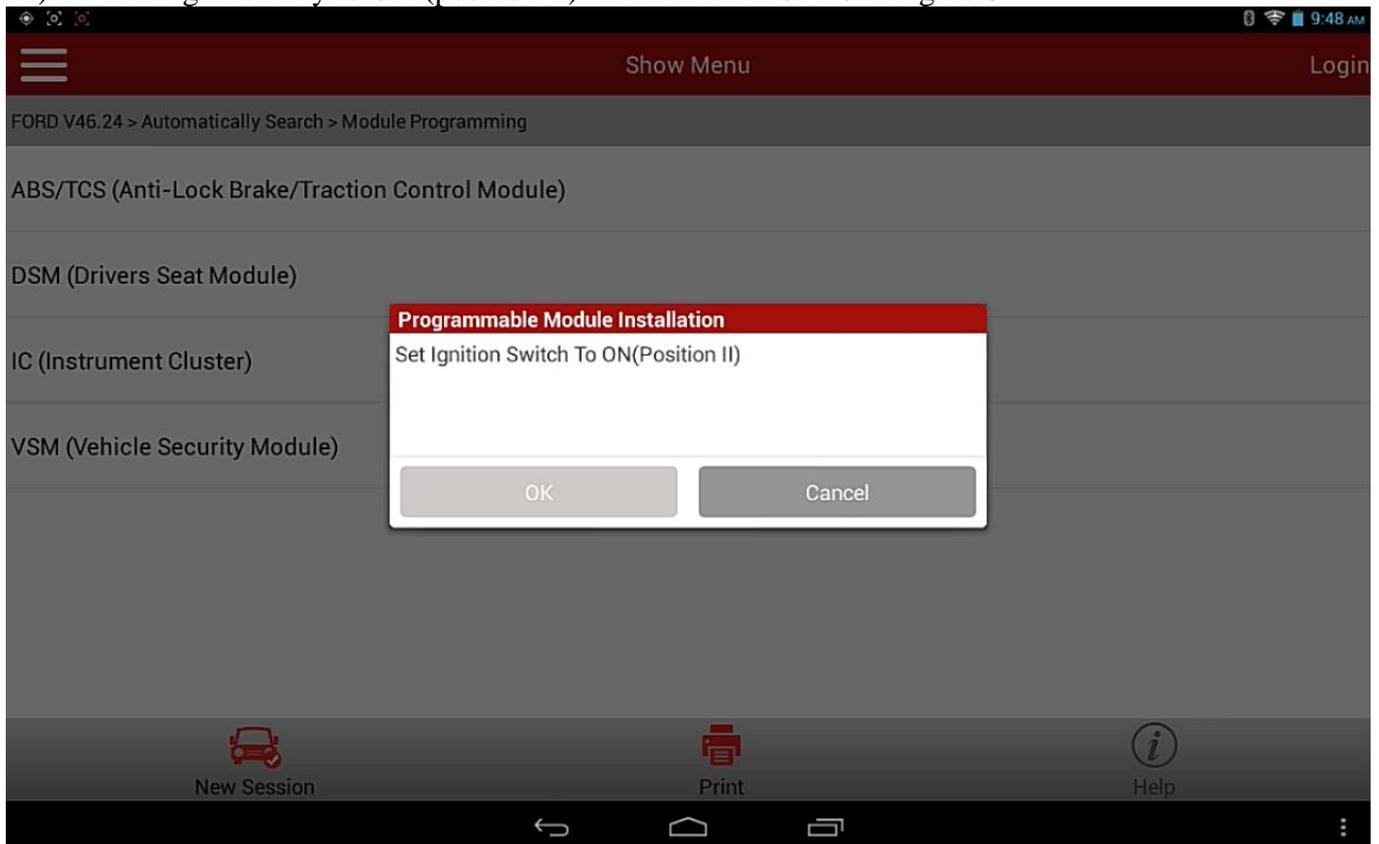

Figure 8
12). Turn the ignition key to ON (position II) and then click OK. See Figure 8.